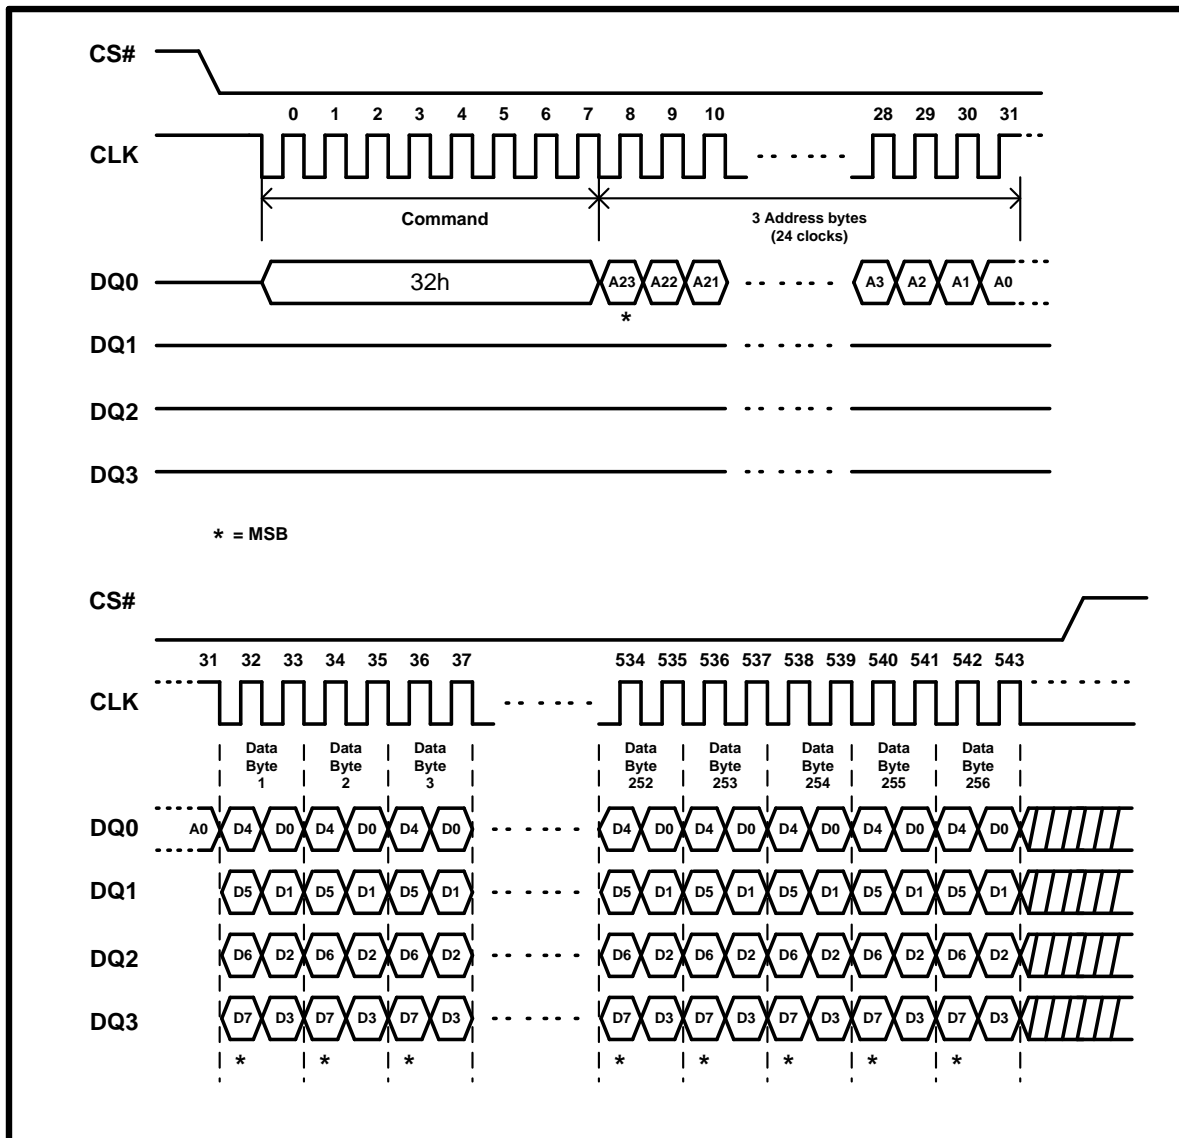

Figure 25. Quad Input Page Program Instruction Sequence Diagram (SPI Mode only)
To use Quad Page Program (QPP) the WP# and HOLD#/RESET# Disable (QE) bit in Status Register must be set to 1. A Write Enable instruction must be executed before the device will accept the Quad Page Program (QPP) instruction (SR.1, WEL=1). The instruction is initiated by driving the CS# pin low then shifting the instruction code "32h" followed by a 24-bit address (A23-A0) and at least one data byte, into the IO pins. The CS# pin must be held low for the entire length of the instruction while data is being sent to the device. All other functions of Quad Page Program (QPP) are identical to standard Page Program. The Quad Page Program (QPP) instruction sequence is shown in Figure 25.